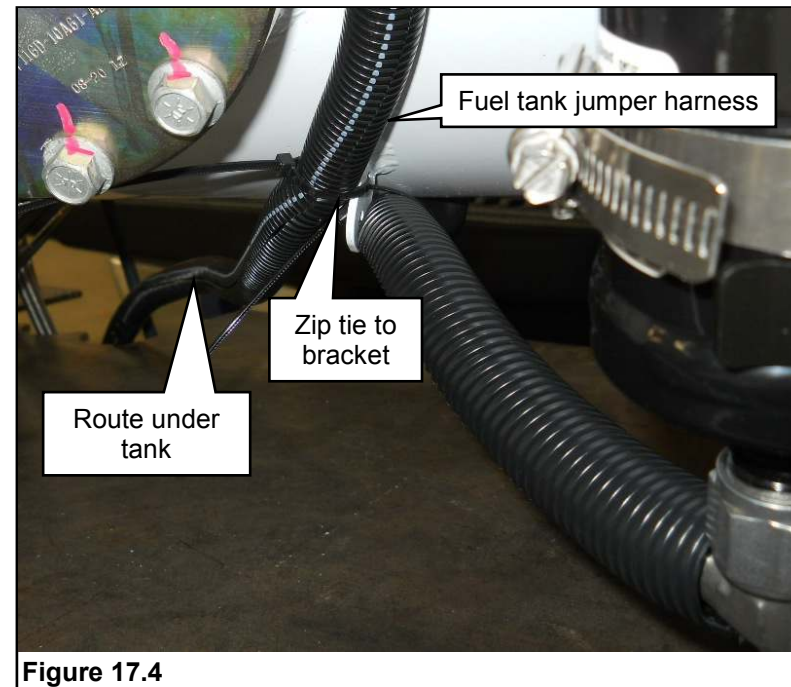

Figure 17.4
13. Position the fuel tank jumper harness pass-through end under the tank to the front. **Figure 17.4.**
16. Bundle the tank harness to the fuel fill line. Secure the harness and fill line to the bracket on the bottom rear of the tank. **Figure 17.4.**